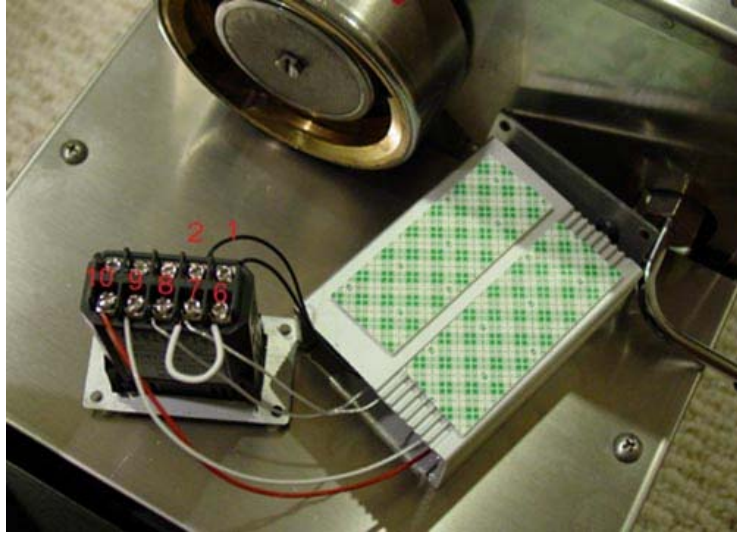

Figure 17. Wiring the controller.
- 3) Feed the cables through the controller box. Connect them to the controller as shown in Fig 17. Wiring the controller correctly is very critical step. Failure to install it correctly can cause damage to the machine and electric shock. The terminal numbers are printed on labels located on both sides of the controller. The black colored power cables need to be connected to terminal 1 and 2. SSR input cable has a polarity. The red colored cable is for terminal 10 and white colored cable is for terminal 9. The RTD cable needs to be connected to terminal 7 and 8. The white colored RTD jumper cable needs to connect to terminal 6 and 7. See Fig 18. Bending the wire tip will make the insertion of the cable easier as shown in Fig 19. In order to prevent the cables from coming loose when pulling on them during box installation, make sure all cables are securely tightened by a screw driver. Also, make sure there are no small wires touching the other terminals, causing a short circuit.